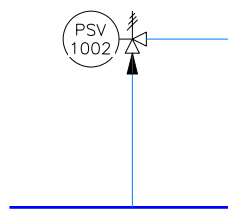

Figure 2-83 Location of the pressure relief valve
9. Place the pressure relief valve on the secondary line of the line connecting the top nozzle of the vessel, as shown in Figure 2-83, and give the required parameter in the **Assign Tag** dialog box.